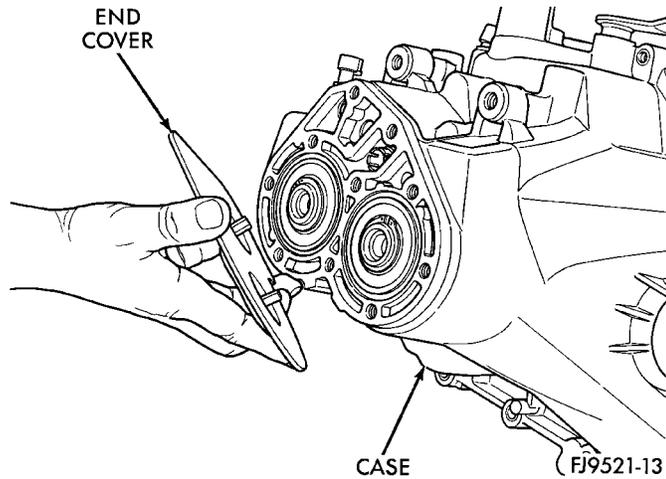

**Fig. 40 Selector Shaft**
(10) Pull the selector shaft shift pin out of the slot in the blocker assembly. Turn selector shaft up and out of the way (Fig. 40).